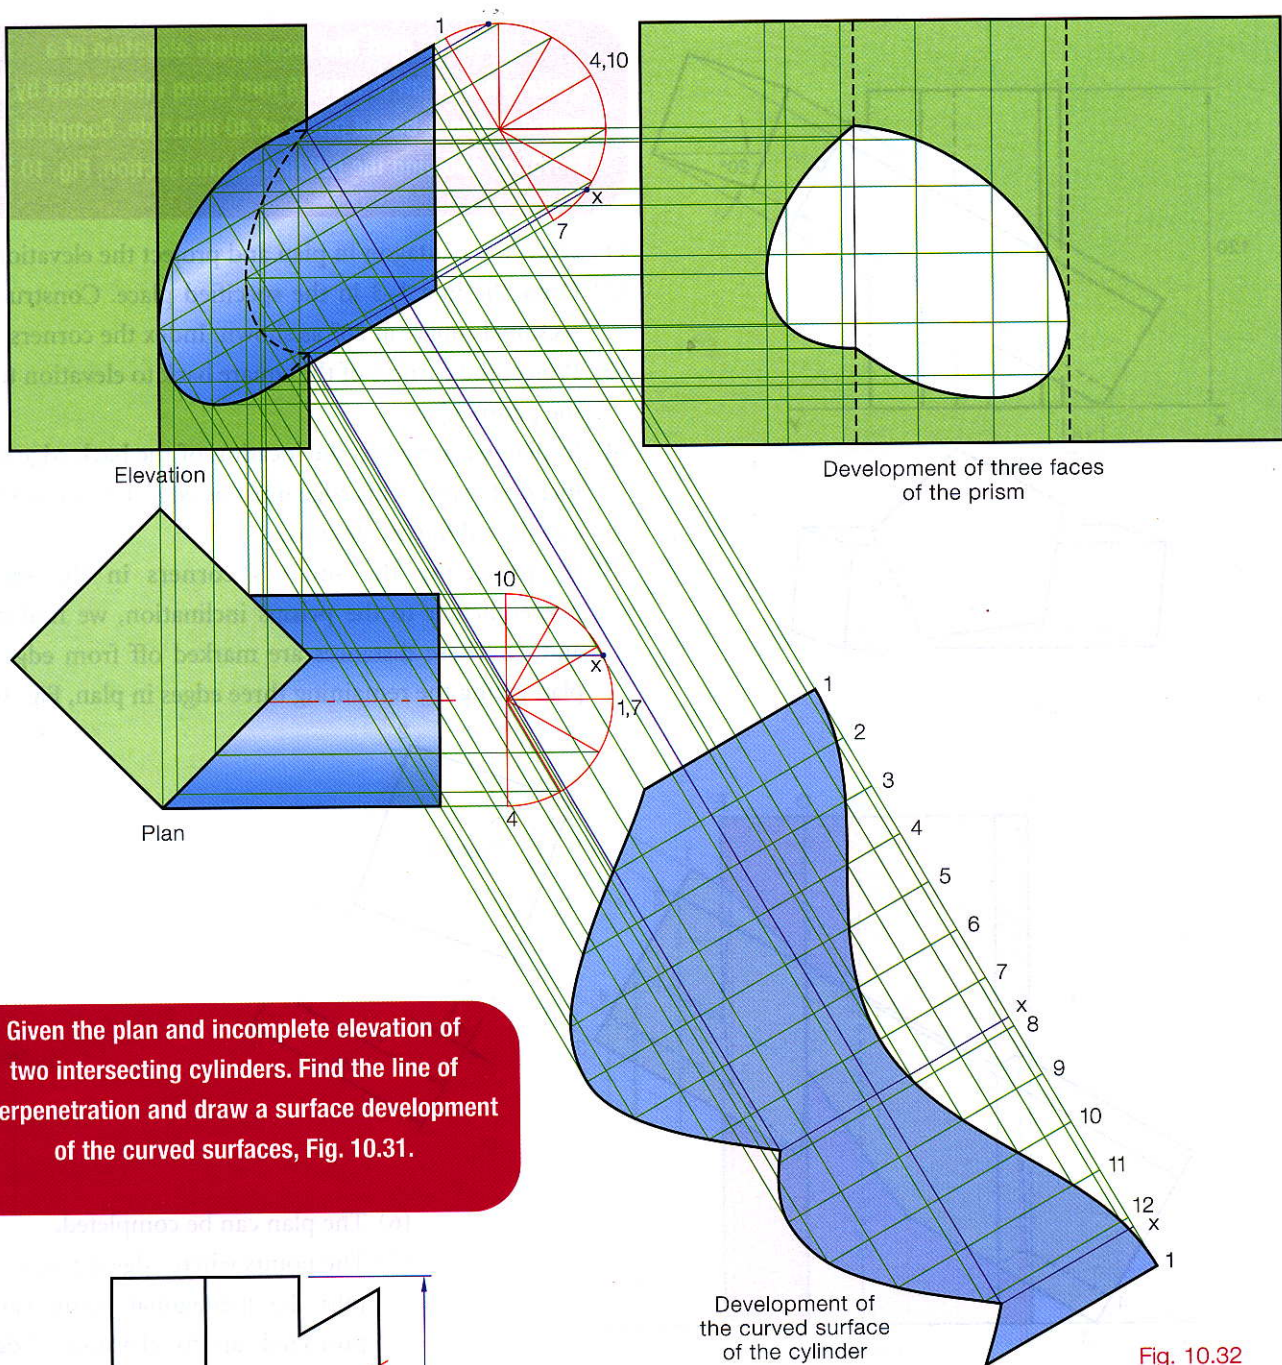

Fig. 10.32
- (1) Draw a partial section of the cylinder on the extended axis in plan and elevation. A semicircle is sufficient. Divide each into six equal divisions as shown.
- (2) The interpenetration is found by projection of elements as shown.
- (3) Point X must be located in plan, where the cylinder hits the corner of the prism. Once found on the section in plan it is transferred with the compass to the section in elevation. Thus we can find the bend points in elevation.
- (4) Point X is also needed in the development of the cylinder.
- (5) Complete as shown, Fig. 10.32.